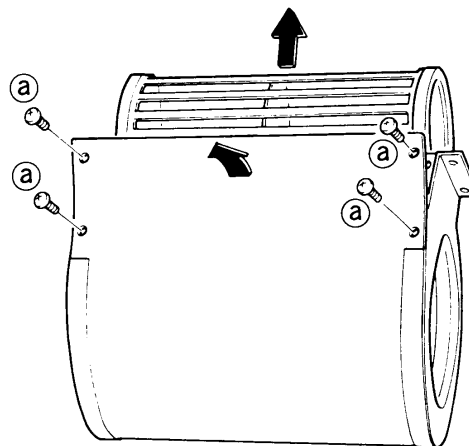

Fig. 12
- (5) The fan can be removed as shown in the figure when the four screws (a) fixing the back plate of the fan casing are removed. Fig. 12